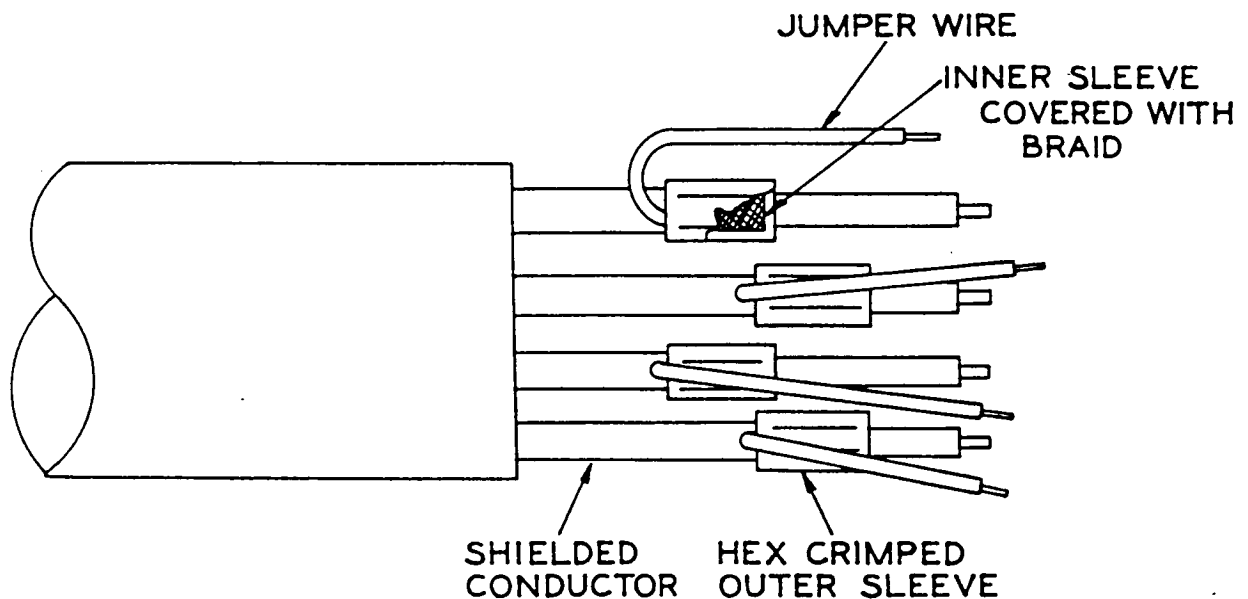

Figure 2-5. Inner/Outer Sleeve Method of Braid Termination
b. Strip outer insulation of the conductor back to a predetermined point where jumper wire is to be terminated to shield. Stripping distances should be staggered to eliminate bunching of the jumper wire termination. See figure 2-5. Slide the inner sleeve under the braid and over the inner insulation to the extent of its travel. Trim the braid flush with the front edge of the inner sleeve using braid scissors.
d. Position the outer sleeve over the braid and jumper wire as shown in figure 2-5. Crimp the outer sleeve with a crimping tool recommended by the sleeve manufacturer.